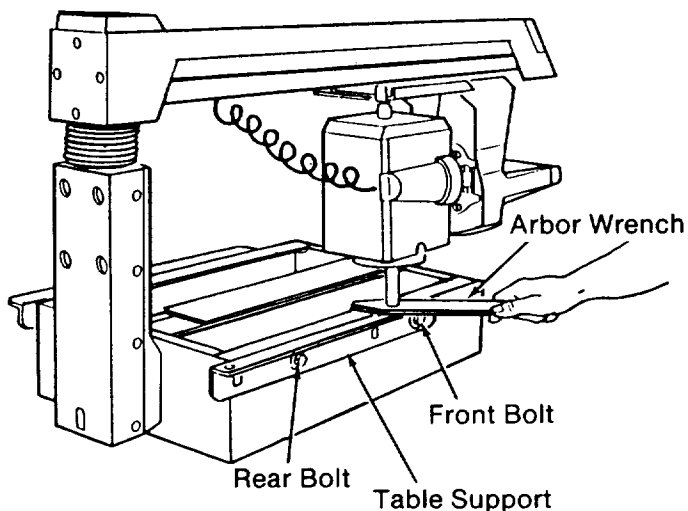

Fig. 58
14. Mark the point on the *table support* under the center of the *arbor shaft*. (Figure 58)
15. Place the handle end of the *arbor wrench* over this point. (Figure 58)